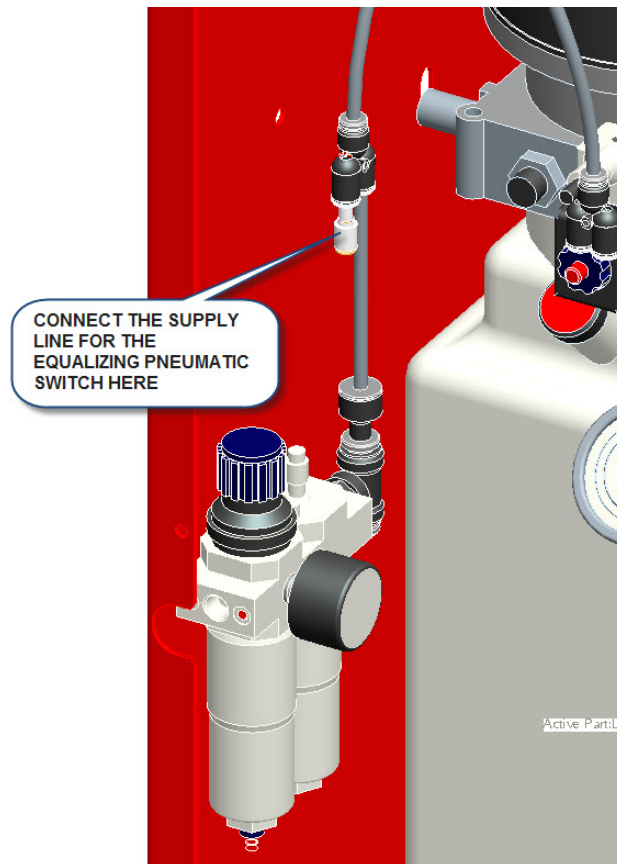

Figure 9 – Right Side Equalizing Limit Pneumatic Switch (Console)
2. The equalizing pneumatic switch on the right side deck assembly is supplied by the main air supply in the console. Connect the supply line labeled "EQ. SUPPLY" as shown in Figure 9.